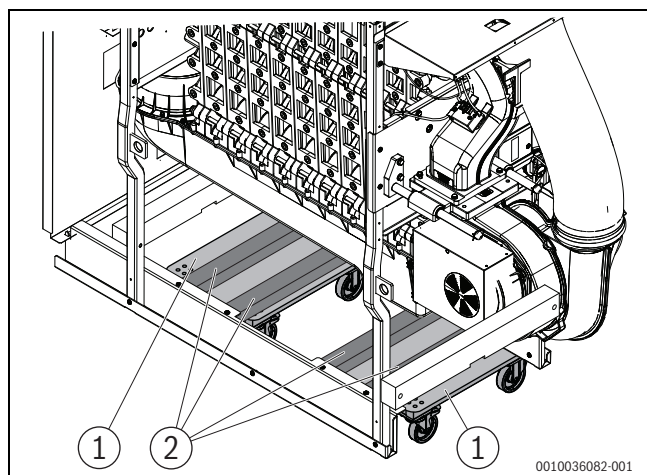

Fig. 15 Boiler on the transport rollers (example for illustration purposes)
- For further transport, push transport rollers underneath between both longitudinal traverses. When lowering, the transport timbers in the middle are put down on the transport roller (→Fig. 15). The boiler can now be moved using transport rollers.